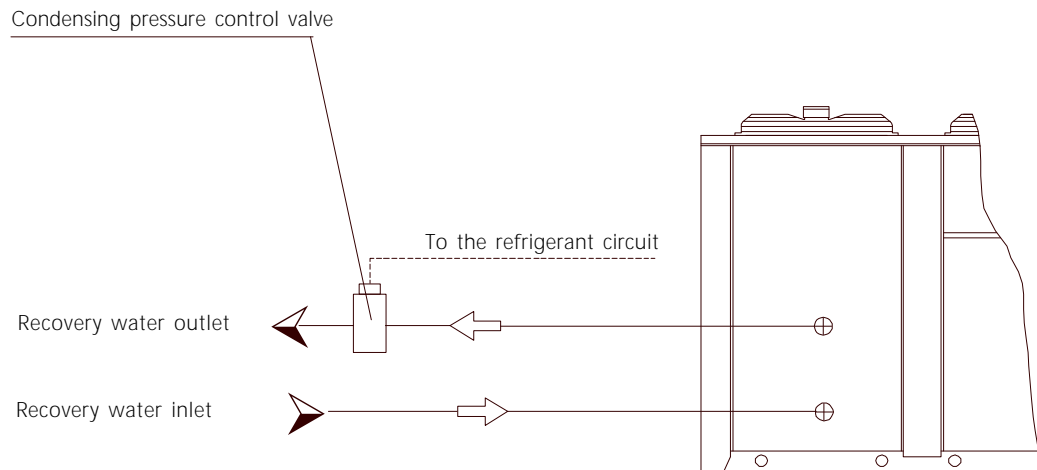

Figure 10
- The flow switch can be removed by screwing out the plastic knurled union nut. In order to reassemble it, ensure that the o-ring seal is positioned in the proper location. (See figure10).